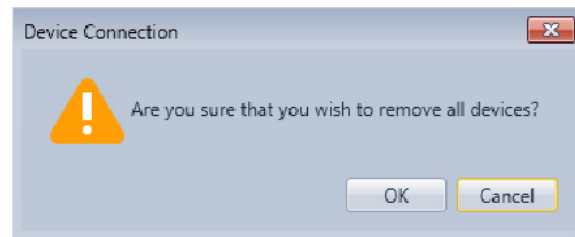

Figure 3.8—Remove Device Connection verification dialog (all devices)
2. Click **OK** to verify that you want to delete connections to all devices (Figure 3.8).